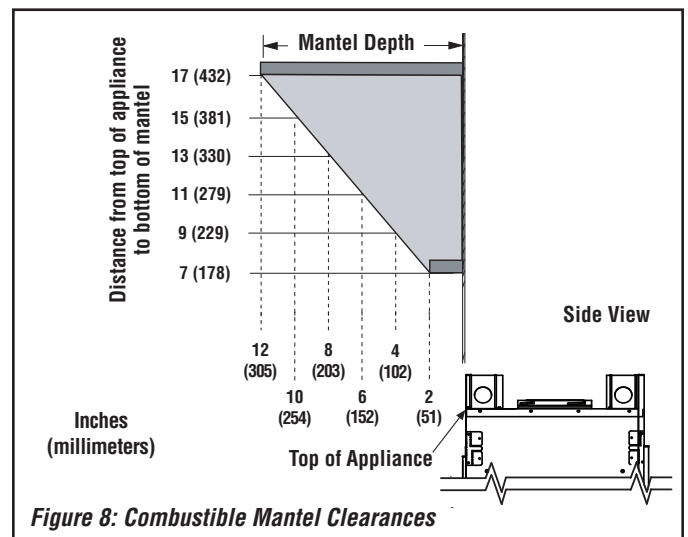

Figure 8: Combustible Mantel Clearances
- Vertical installation clearances to combustible mantels vary according to the depth of the mantel (see **Figure 8 on Page 9**).
Vertical installation clearances to combustible mantels vary according to the depth of the mantel. See **Figure 8**. Mantels constructed of non-combustible materials may be installed at any height above the appliance opening.